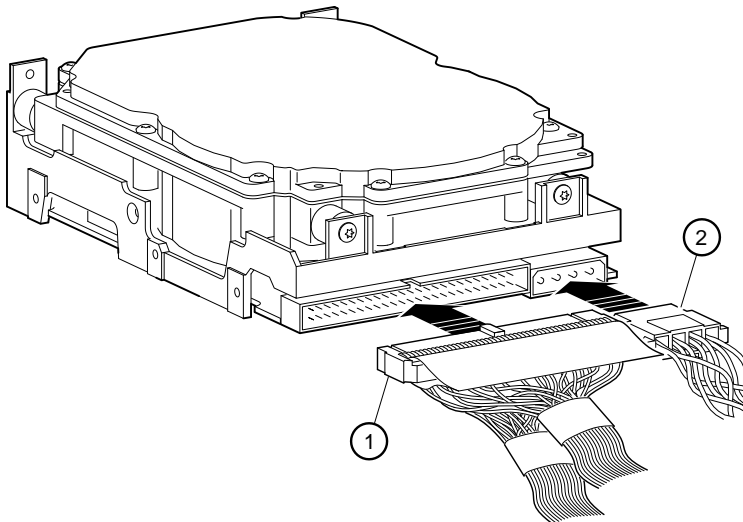

Figure 3-15. Cabling Hard Disks
5. Connect the bus cable ① and the power cable ② to the rear of the drive, as Figure 3-15 shows.